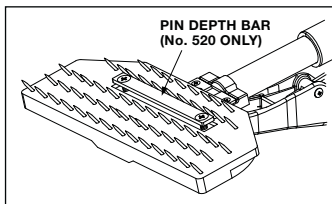

Figure 6
D. With the No. 520, pin depth adjustment is made using the two screws in the pin plate. (See figure 6.)